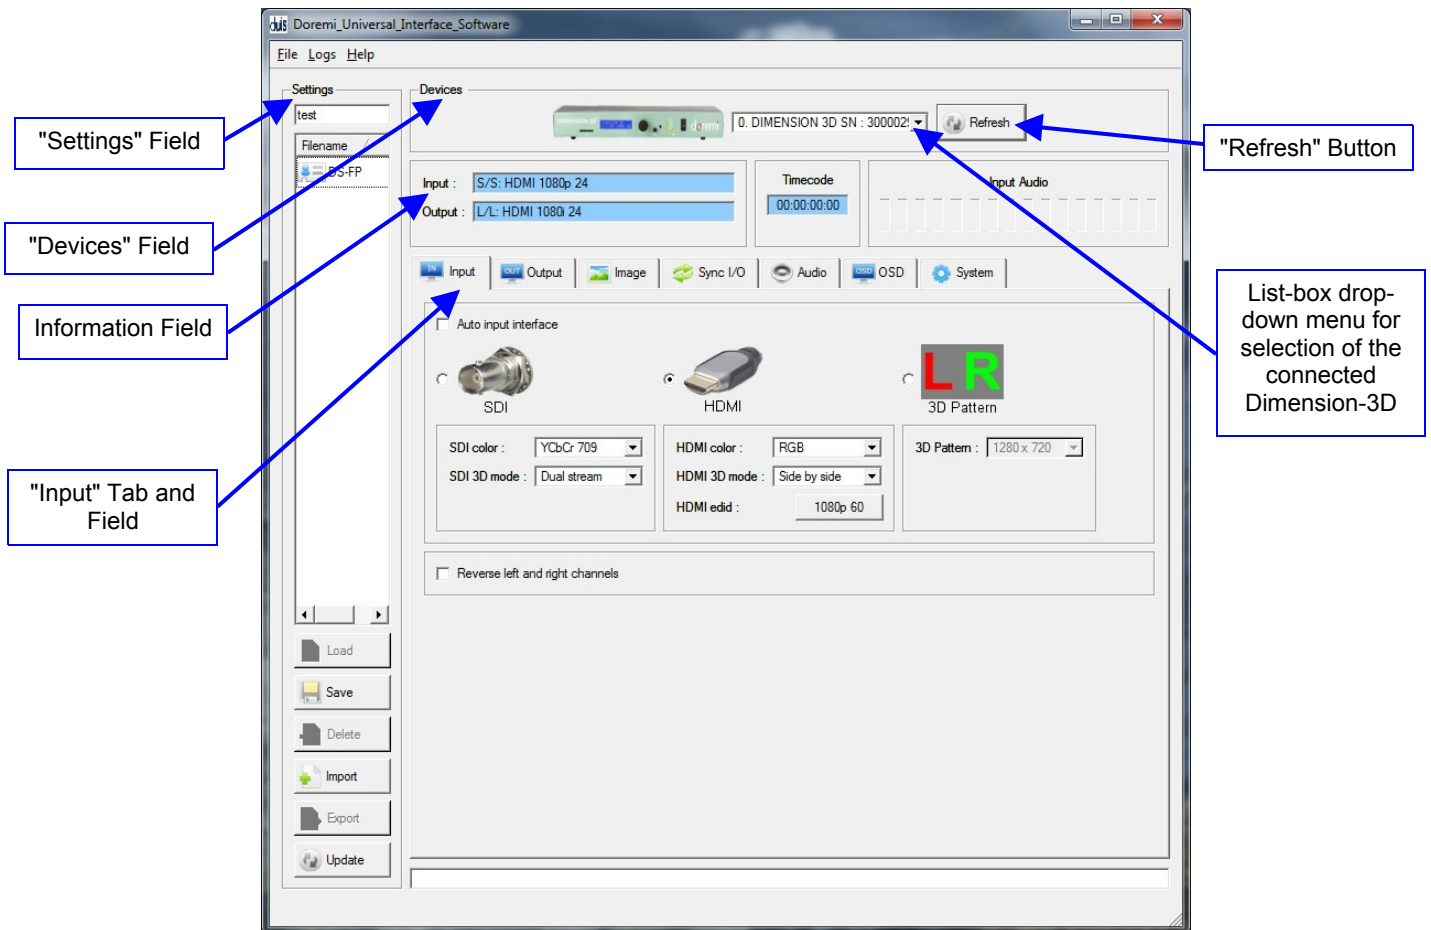

Figure 10: Doremi Universal Interface GUI
- The "Devices" field can be used to select one connected Dimension-3D from the drop-down menu. Click on the "Refresh" button to confirm if all the connected Dimension-3D units are visible (Figure 10).
- The "Information" field provides information about the input and output interfaces and resolutions. The "Information" field also provides the current "timecode" and audio input levels of the connected Dimension-3D device (Figure 10).
The "Input" tab is presented in Figure 10. All parameters are explained in this manual in the Section 3 "Dimension-3D Front Panel Controller."